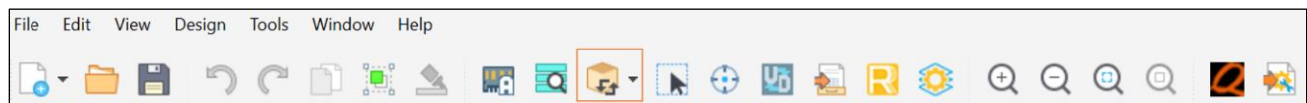

Figure 5.7. Generate in Lattice Propel Design
- To generate the design, go to **Design > Generate** or click the **Generate** icon (as shown in Figure 5.7). Ensure the TCL console shows no errors, and only the expected INFO messages and WARNINGS appear.